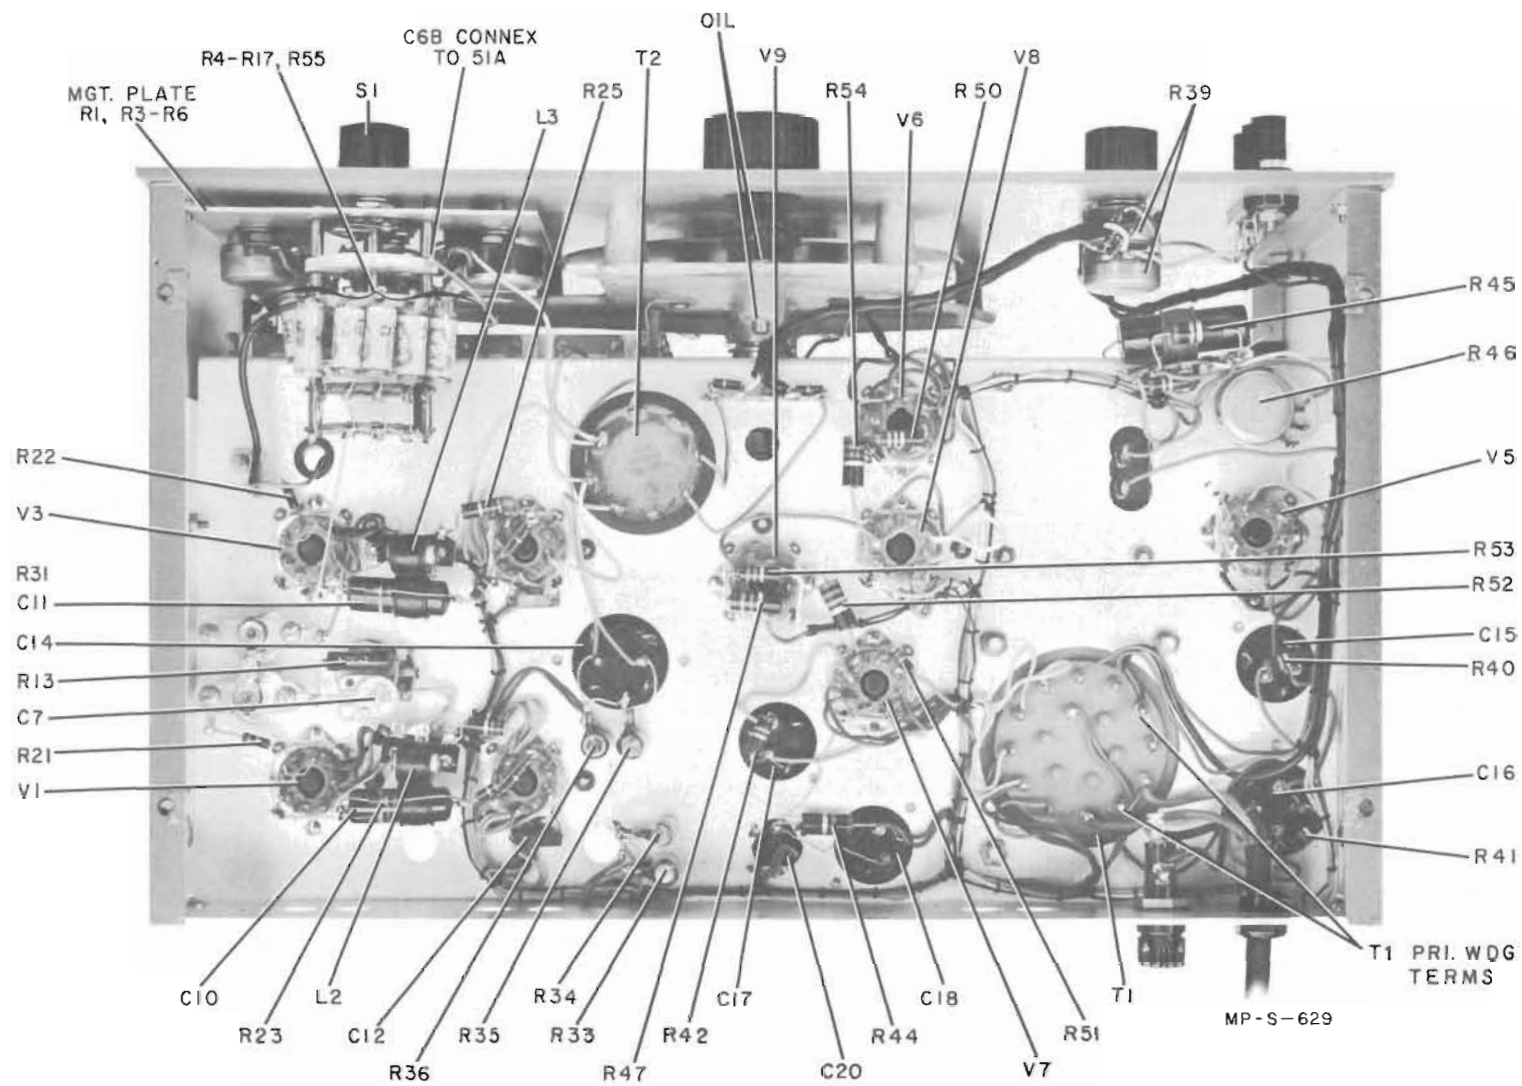

Figure 4-1. Bottom View Model 200T
- 1) Vernier drive-shaft bearing, one drop of light oil on shaft, at each end of bearing (see Figure 4-1).